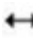

Figure 4-43: Text appearance test
- You can change the font in the drop-down menu of “Font”. IFCDRAW provides almost all fonts. Fonts led by @ indicate horizontal display of the Chinese characters. See Figure 4-43.